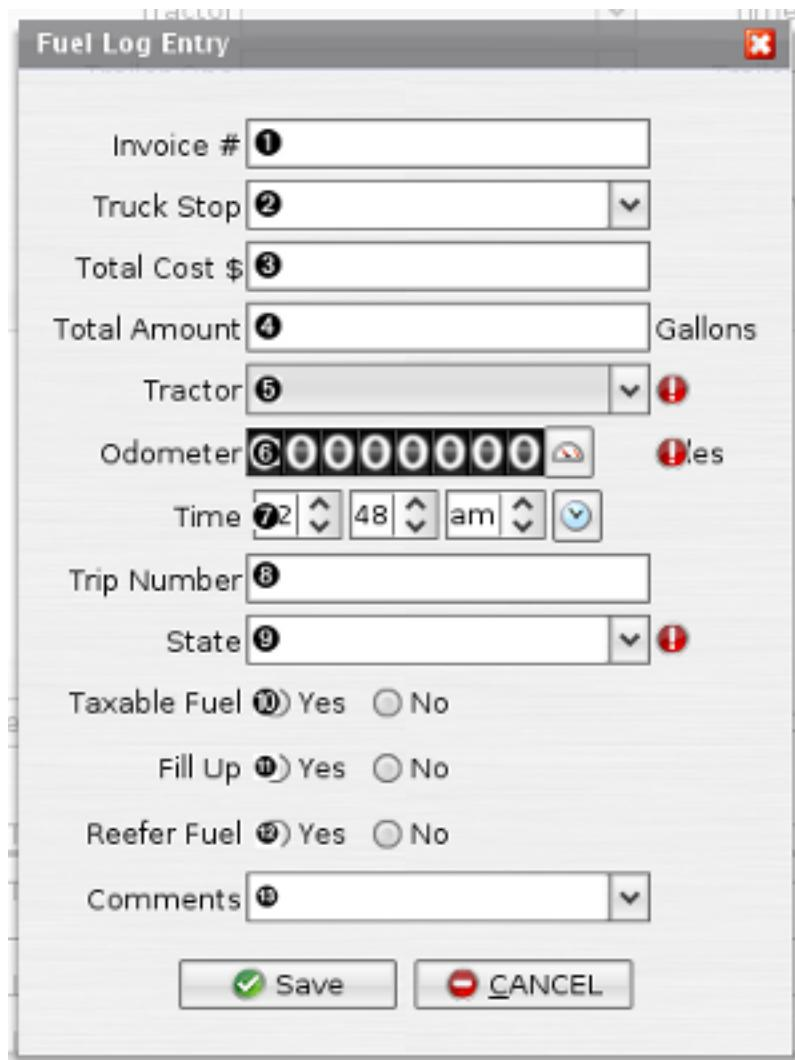

Figure 5.24. Fuel Log Entry Dialog
- Fuel: A log entry to record the purchase of fuel. This log entry is a more specific version of the expense log entry. See Figure 5.24, “Fuel Log Entry Dialog”.